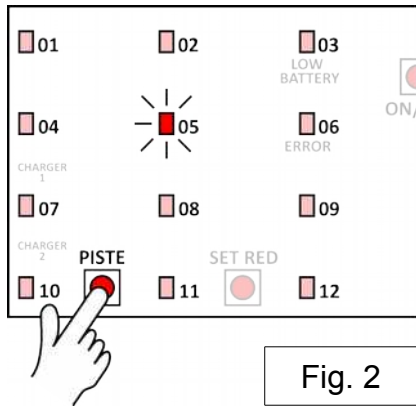

Fig. 2
Only if more than one WF1 is used in the same room is it necessary to establish a different piste number for each apparatus in order to avoid radio interference. The piste number in use can be displayed by pressing the PISTE button: one of the red LEDs from 01 to 12 will light up for 3 seconds depending on the piste selected (see Fig. 2).
(1) On the RECEIVER press the PISTE button for circa 2 seconds until the red LED indicative of the piste number begins to flash. Then press the PISTE button more than once to select the desired piste. See Fig. 2.
(2) For the TRANSMITTER associated with the colour red, simultaneously press the P1 button on the TRANSMITTER and the SET RED button on the RECEIVER for at least 2 seconds. When all red LEDs